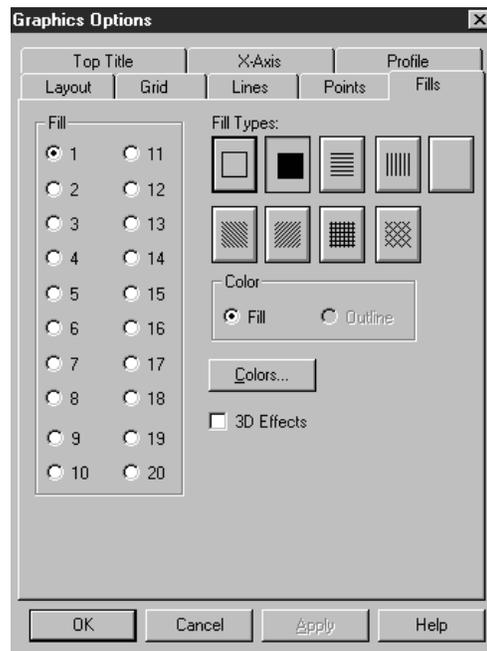

Figure 5-3. *Fill Tab Page*
3. Click the left button on the graph, the right to display the pop-up menu, then the left on Graphics Options to display the Graphics Options dialog box, which should open to the tab page that corresponds to the area of the graph you selected in Step 2 (see Figure 5-3).